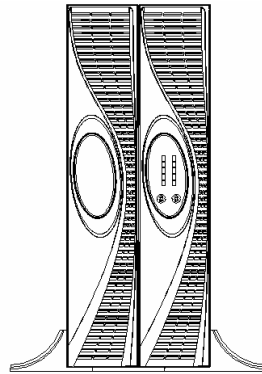

Figure 2-4 Positioning modules
2. Use step 2 in section 2.3.1 to put the power module and battery module on the bases, with the power module in the right position to facilitate cable connection, as shown in Figure 2-4.